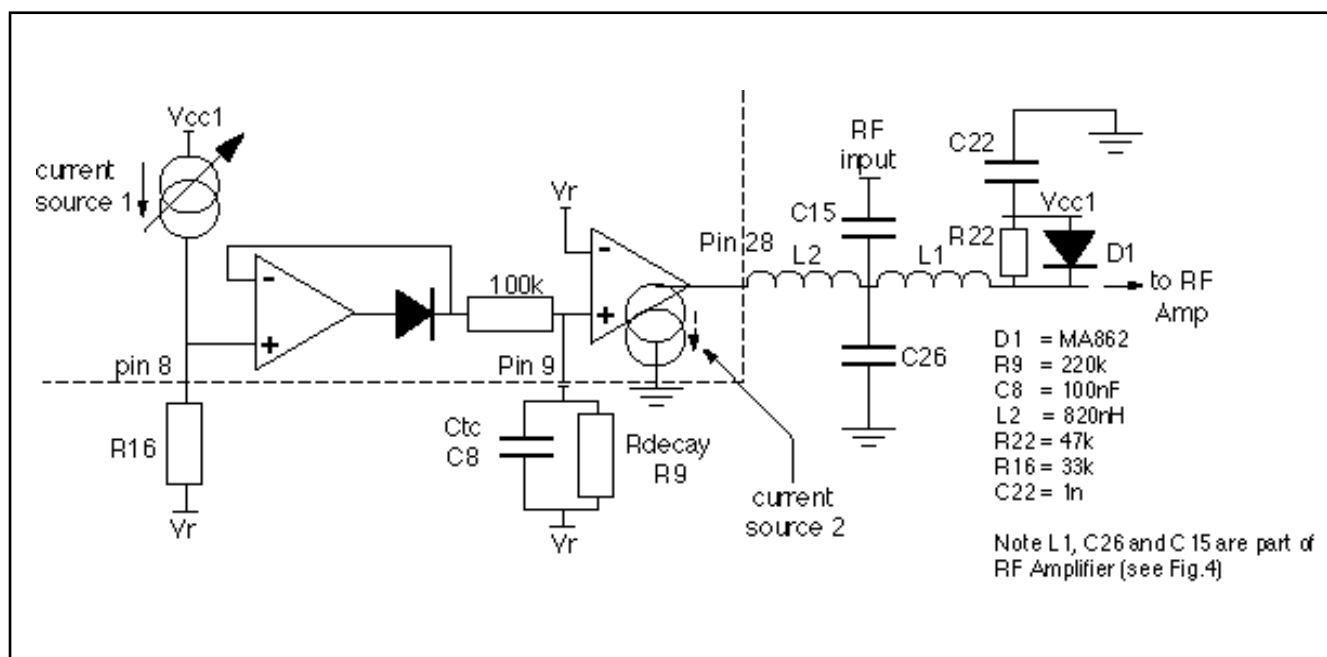
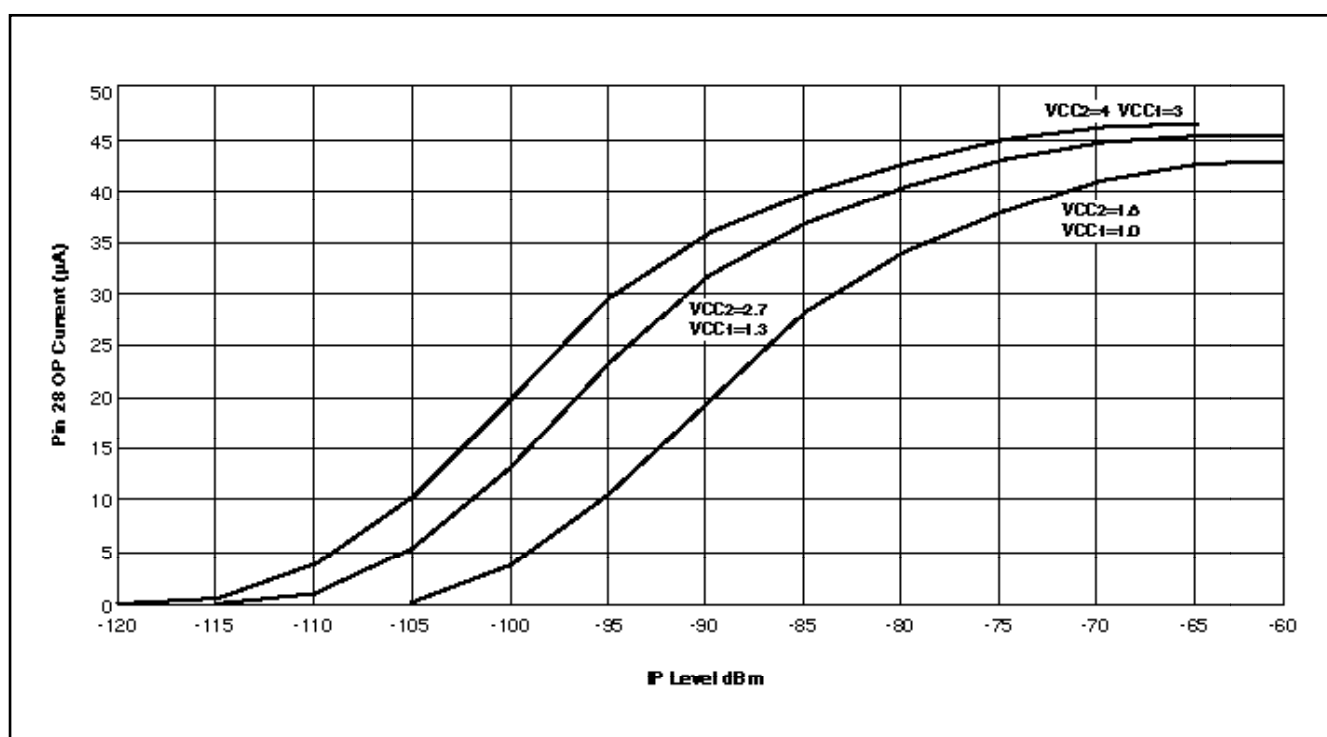

Fig.6 AGC Schematic
Fig.7 Audio AGC current vs. IP power at 25°C
5. Suggested diode for use with the Audio AGC circuit (see Fig.6) (D1 is not included on the general demonstration circuit).
4. L2 is used in the Audio AGC circuit (see Fig.6). For the characteristics of the Audio AGC current source see figure 7. If the Audio AGC is not required then the current source (Pin 28) may be disabled by connecting Pin 9 (TCADJ) to VR (Pin 6) and by connecting Pin 28 (IAGCOUT) to Vcc1, (R18). The voltage at Pin 8 may still be used as an RSSI. R9, C8, C14, C19, R17 and D1 may then be omitted.